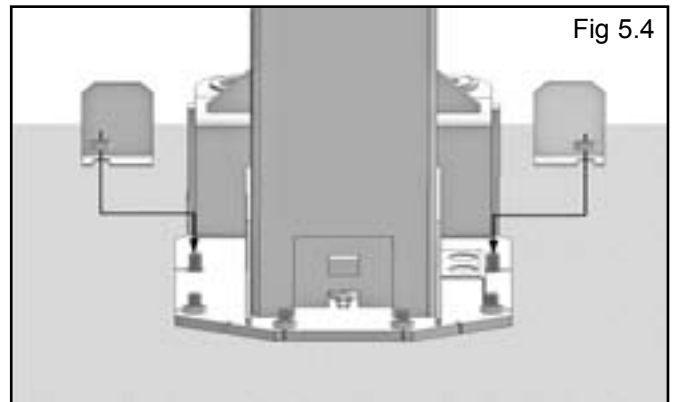

Fig 5.4
6. If installing the Optional Foot Guards, place foot guards on left and right side as shown. (See Fig 5.4)